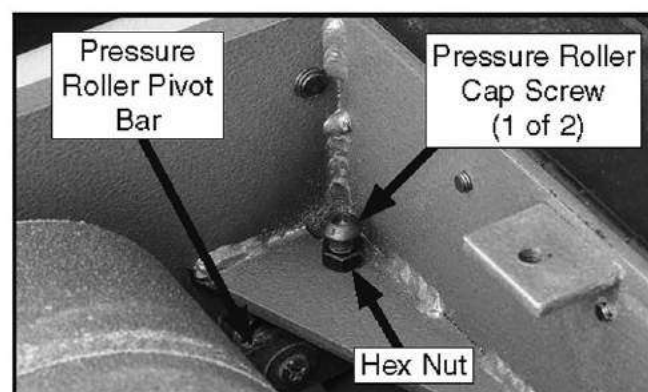

Figure 49. Rear pressure roller adjustments.
2. Loosen hex nut securing tensioner cap screws on both ends of rear pressure roller shown in **Figure 49**.